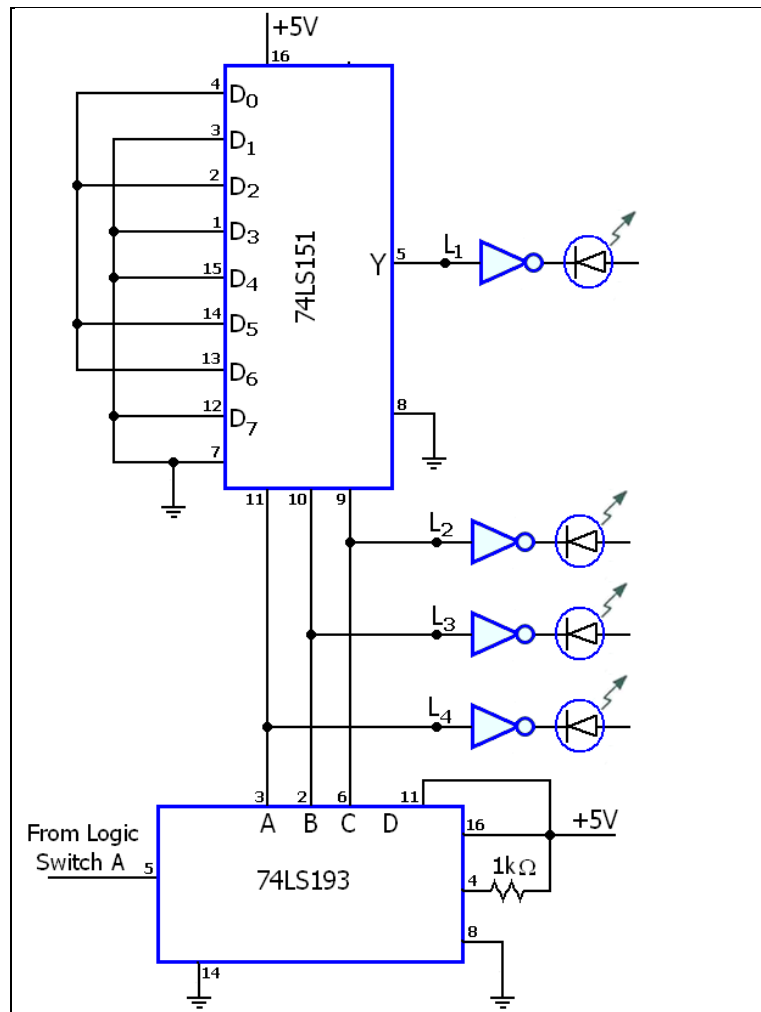

Fig. 1-5 Multiplexer Circuit for Steps 6-10
6. Modify your experimental circuit to conform to Fig. 1-5. Remove the connections from the multiplexer inputs to data switches-SW1 through-SW4. Wire the inputs of the multiplexer, as shown in Fig. 1-5. Connected in this way, the multiplexer becomes a serial data word generator or a Boolean function generator.
10. Observing the experimental circuit in Fig. 1-5 and using the multiplexer logic diagram in Fig. 1-4 for reference, write the output equation for the multiplexer. Note the states of the multiplexer inputs, then combining this information with the Boolean equation for the multiplexer you developed earlier, you should be able to write the sum-of-products expression of the output-Y for the multiplexer input connections.